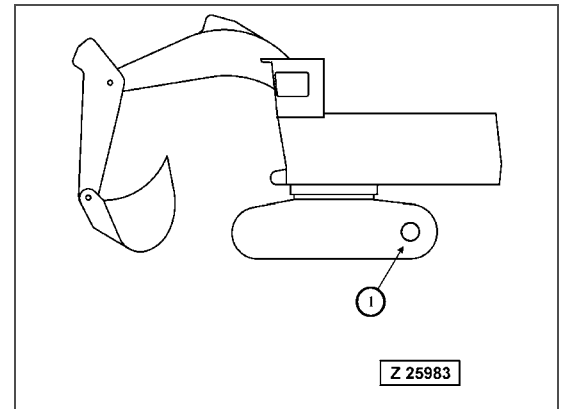

Fig. 2-22
- Before traveling, set the machine so that sprocket (1) is behind the operator's seat (Fig. 2-22).
- If sprocket (1) is in front of the operator's cab, the machine moves in the opposite direction from the operation of the pedals (front and rear travel is reversed, left and right steering is reversed). Be extremely careful when operating the machine in this situation.